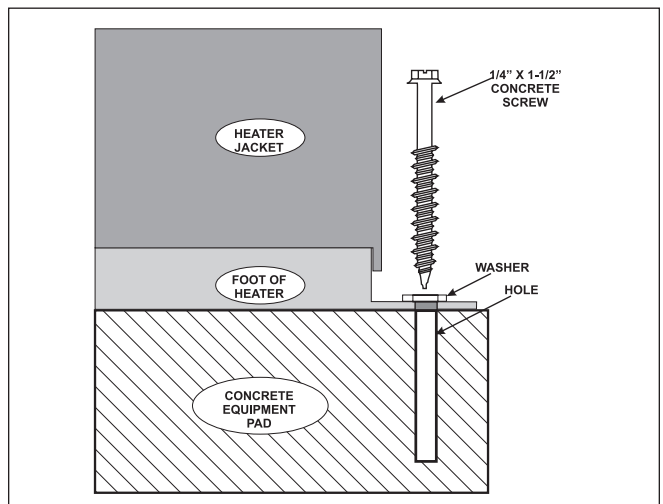

Figure 4. Anchor Heater To Equipment Pad
Mounting screws are not provided with this heater. After placing the heater on the equipment pad, drill a hole in the concrete at each of the four (4) tabs on the feet of the heater. (The correct size drill bit is usually provided with the concrete screws when purchased). Place a screw in each of the holes and fasten the heater to the equipment pad. (See Figure 4). **Do not over-torque the screws.** Other jurisdictions may have similar requirements. Please check your local codes for relevant details.